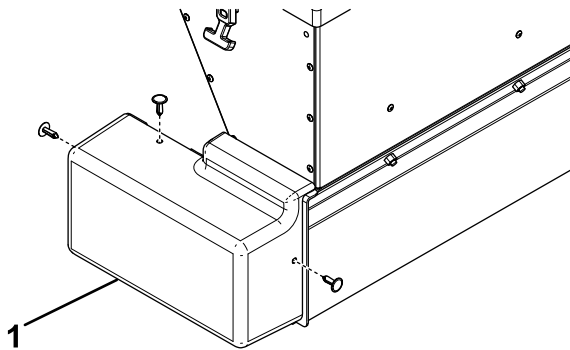

Figure 4
1. Remove and retain the motor cover (Figure 4).